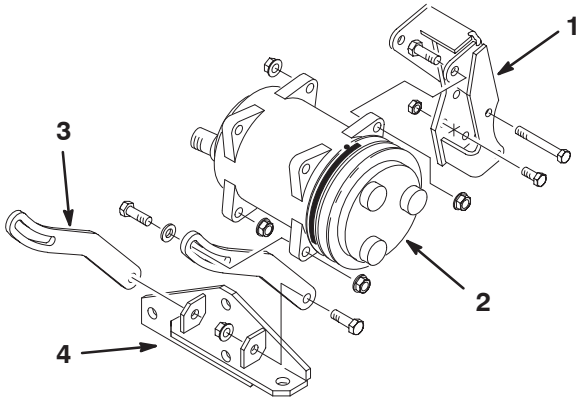

Figure 4
12. Using the holes and the fasteners previously used for mounting the alternator bracket and the idler bracket, secure the compressor mounting bracket to the engine and to the fan support (Fig. 4).
17. Mount the top of the compressor to the compressor mounting bracket with (2) 3/8-16 x 1-1/4" lg. capscrews and flange nuts (Fig. 4). Make sure the compressor is mounted so the rear ports are in a horizontal plane.
18. Mount a compressor strap to the outside of each engine bracket tab with a 3/8-16 x 1-1/4" lg. capscrew and flange nut (Fig. 4).
19. Loosely mount the other end of each compressor strap to the bottom of the compressor with a 3/8-16 x 1-3/8" lg. capscrew, flat washer and flange nut (Fig. 4).